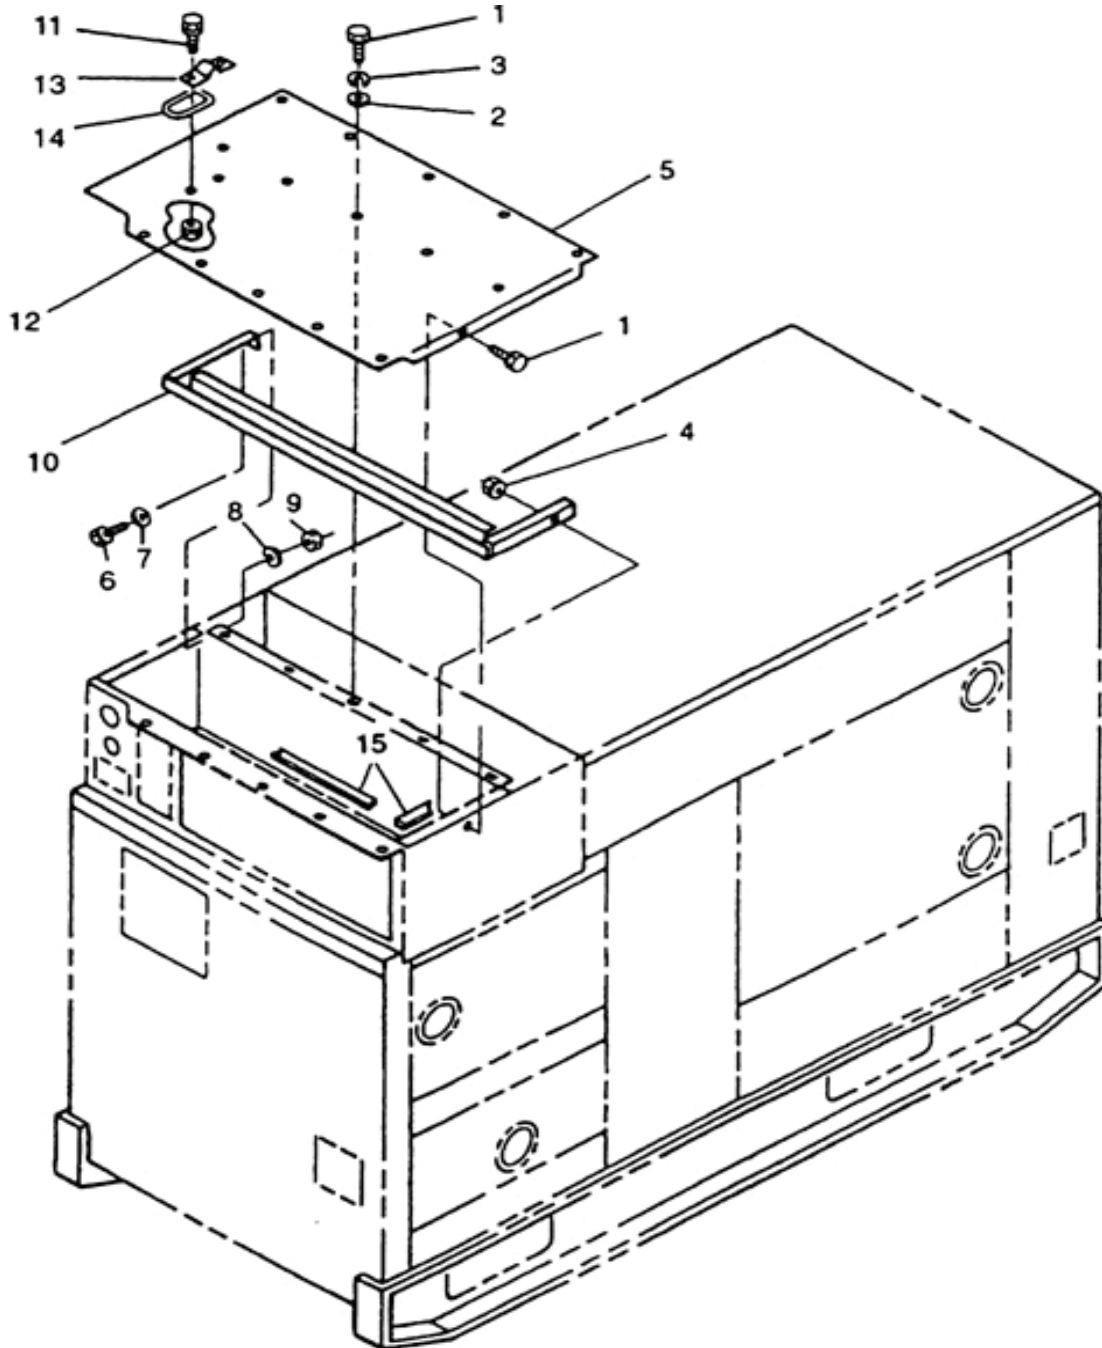

Figure 2-6. Control Box Top Panel.
- d. Lower control panel and remove bolts (1, Figure 2-6), flat washers (2), lock washers (3), and assembled nuts (4) from top panel (5). Discard lock washers (3).
- c. Inspect control box top panel (5, Figure 2-6) for dents, cracks, loose paint, and corrosion.
- a. Install ring (14, Figure 2-6) and bracket (13) on control box top panel (5) with bolts (11) and assembled nuts (12).
- b. Install stiffener (10) in control box assembly with bolts (6), washers (7), new lock washers (8), and nuts (9).